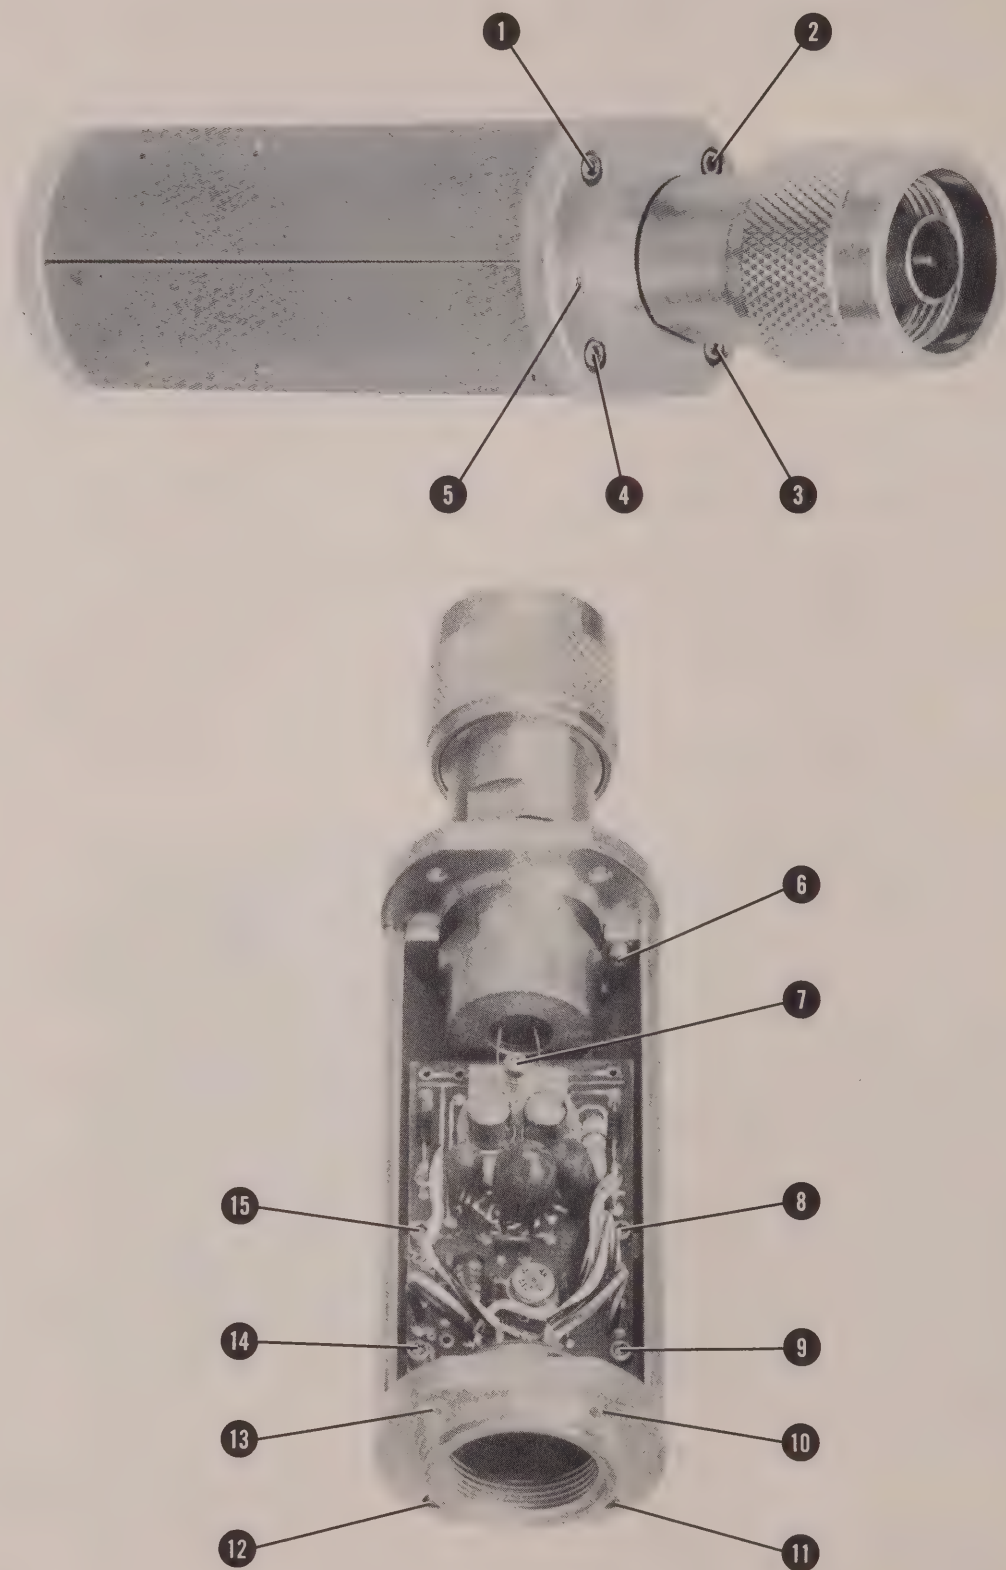

Figure 8. Power Sensor Hardware Locations
c. Position the Power Sensor as shown in Figure 8 (top). The small hole ⑤ should be on the left side of the RF input connector. Remove the allen cap screws ①, ②, ⑩, and ⑬. Loosen ⑪ and ⑫. Remove the upper chassis from the Power Sensor.
a. Remove the spring clamp cap screw ⑦ to free the gold leads which come from the Bulkhead Assembly.
b. Remove cap screws ③, ④, and ⑥.
b. Remove cap screws ⑧, ⑨, ⑪, ⑫, ⑭ and ⑮.
b. Cap screws 8, 9, 11, 12, 14, and 15 must be inserted but not tightened. Refer to Figure 8.